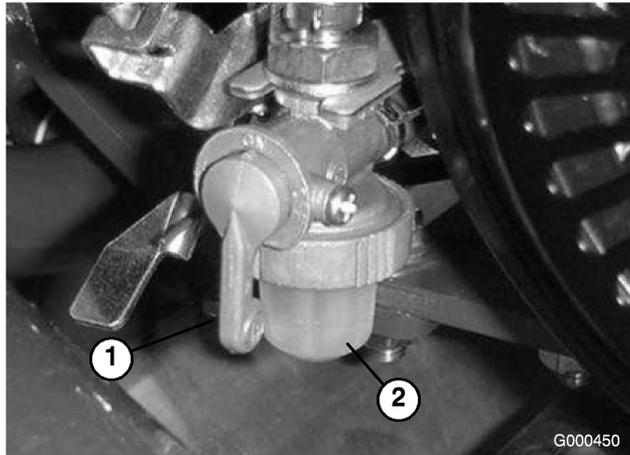

Figure 25
1. Close fuel shut off valve and unscrew bowl from filter body (Figure 25).